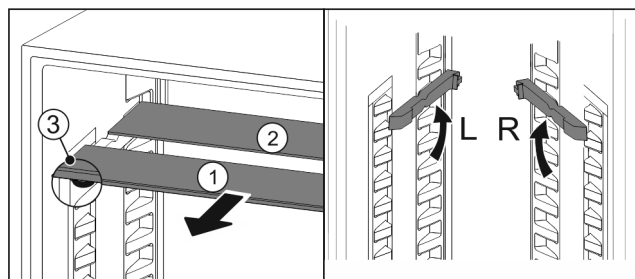

Fig. 124
- Pull the glass panels out Fig. 124 (1) from the front, one at a time.
- ▶ The glass panel *Fig. 124 (1)* and trim strip are at the front.
- ▶ The stops *Fig. 124 (3)* point down.